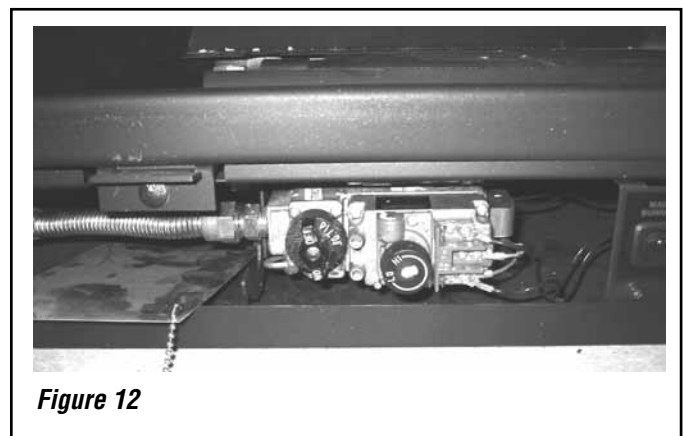

Figure 13
- Remove the phillips screw from the pilot/on/off gas control knob as shown (see **Figure 13**).